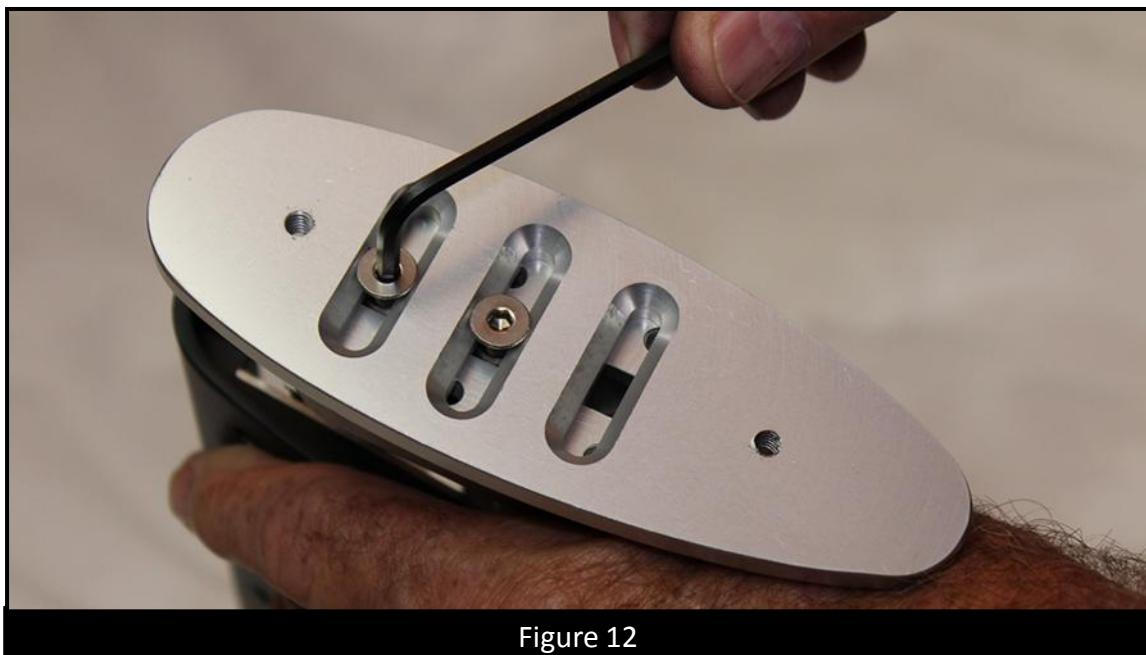

Figure 12
2. Using the provided 1/8" Allen wrench loosen the flat head screws [Ident. E] that lock the butt pad position. Adjust pad to the position of choice. The screws may be moved from slot to slot to enable a greater range of vertical travel. Retighten the flat head screws. (*Figure 12*)